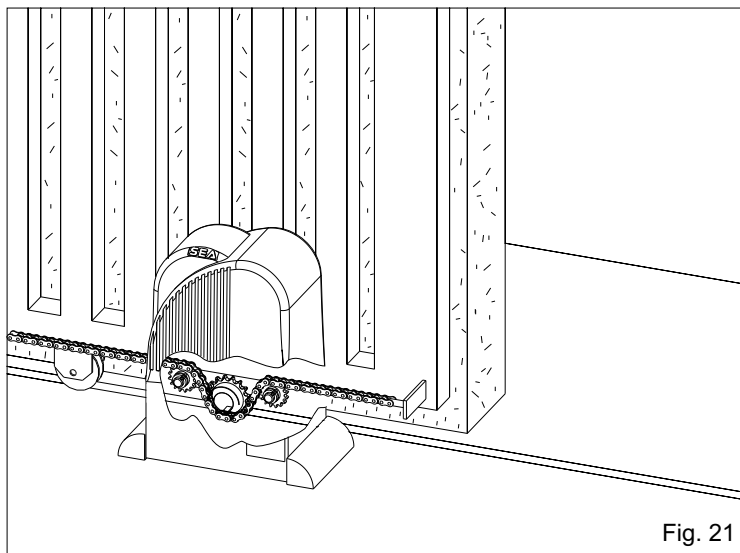
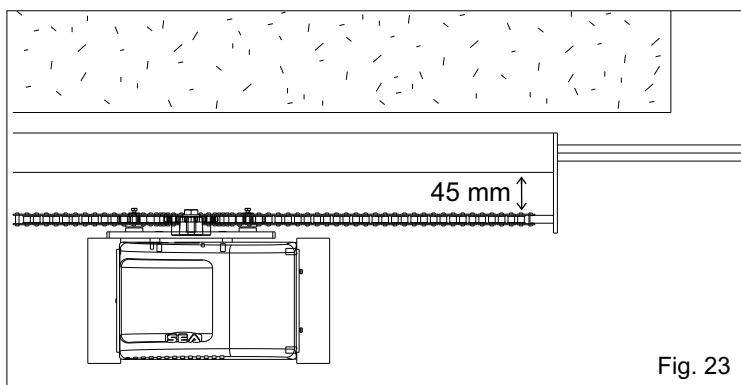
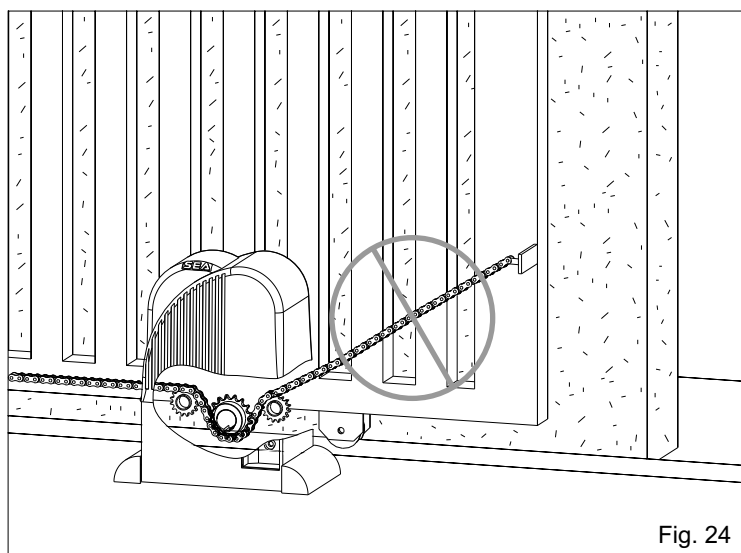

Fig. 21
Fig. 23
Fig. 24
**Notice:** the holes for the chain tensioner and so the chain itself must be to a minimum distance of 45 mm from the gate (Fig. 23).
The chain must be always in line both vertically (Fig. 21) and orizontally (Fig. 23), if not perfectly aligned (Fig. 24 and 25) it may derail from the pinion group or the motor reducer risks a greater effort not allowing the right operating of the system.